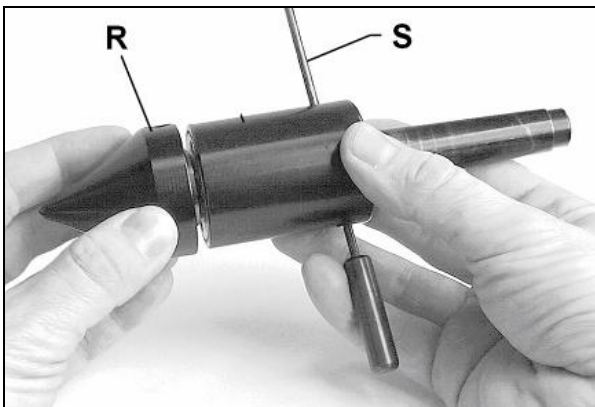

Fig 33
To screw off the cone (R, Fig 33) the live centre must be locked against rotation with the supplied pin (S).